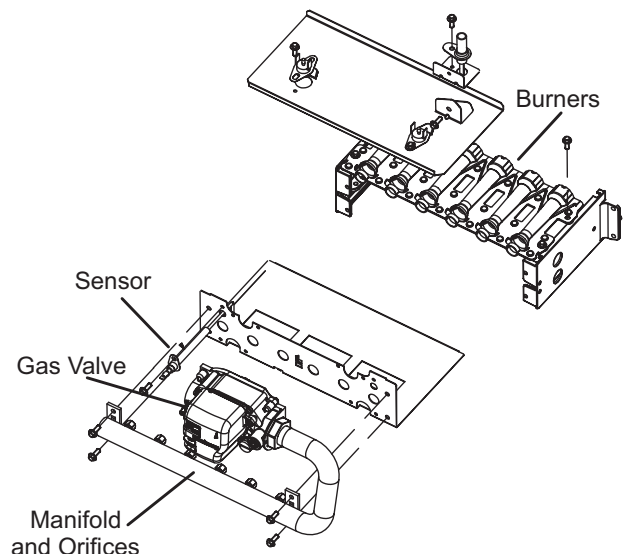

FIGURE 1
- 4 - Remove the four manifold securing screws. Remove the manifold/gas valve assembly. Replace the main burner orifices with the provided orifices. Torque to approximately 35 in-lbs. See figure 1 or 2.